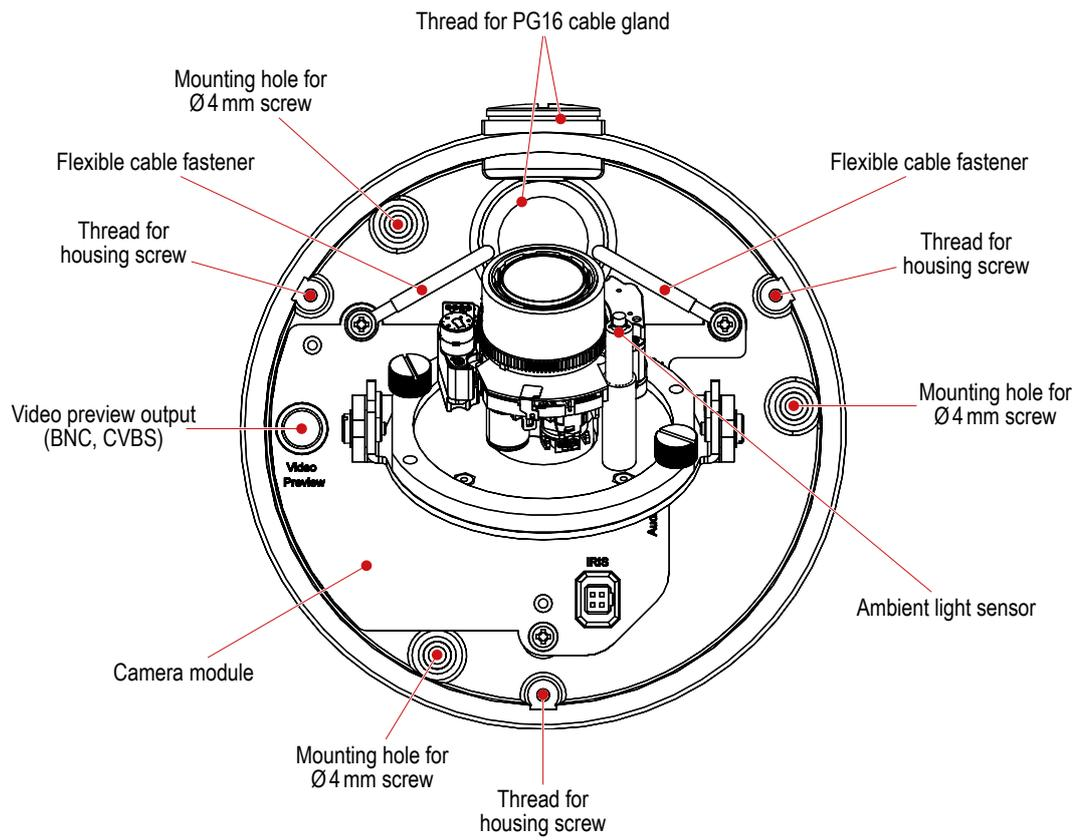

Fig. 5-4 Housing base of surface mount variant (top view)
- Mark the drill holes on the ceiling/wall using the 3 pre-drilled mounting holes of the housing base (Fig. 5-4) as a template.